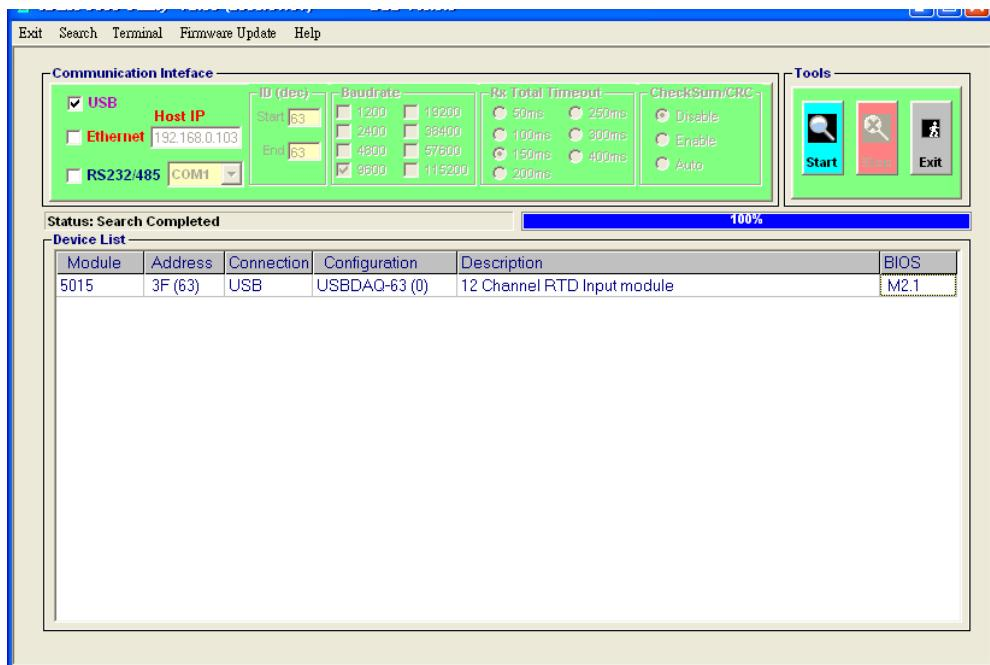

Figure -3
3. Executes provided EX-5000 utility called “E5KUtility.exe” (see Figure -3)